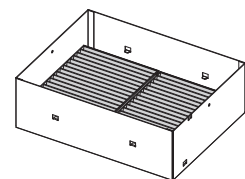

Fig. 3
- When the two air filter units are attached **(Fig. 3)**, proceed to “Attaching the long life filter cover” (➔ page 240) next.